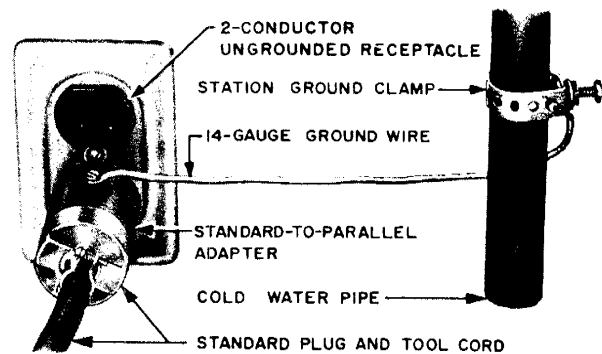

Fig. 4 — Ungrounded 2-conductor Receptacle
**4.05** The pigtail grounding terminal on adapters or attachment plugs should be connected to a suitable conductor. As shown in Fig. 4, 14-gauge ground wire or the B or C grounding cord will be satisfactory.
- Attach ground wire to ground terminal on plug or adapter and to the grounded object selected, making certain a good metallic connection at both ends is accomplished (see Fig. 4).